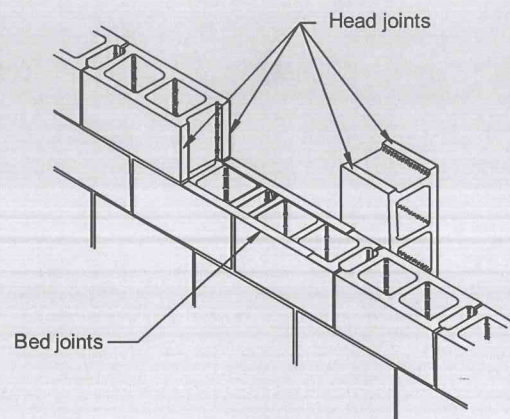

Figure SC-7 — Mortar placement of hollow units in walls
3.3 B. Placing mortar and units — Article 3.3 B applies to masonry construction in which the units support their own weight. Face shell mortar bedding of hollow units is standard, except in locations detailed in Article 3.3 B.3.b. Figure SC-7 shows the typical placement of mortar for hollow-unit masonry walls. In partially grouted walls, however, cross webs next to cells that are to be grouted are usually mortared. If full mortar beds throughout are required for structural capacity, for example, the specifier must so stipulate in the Project Specifications or Project Drawings.